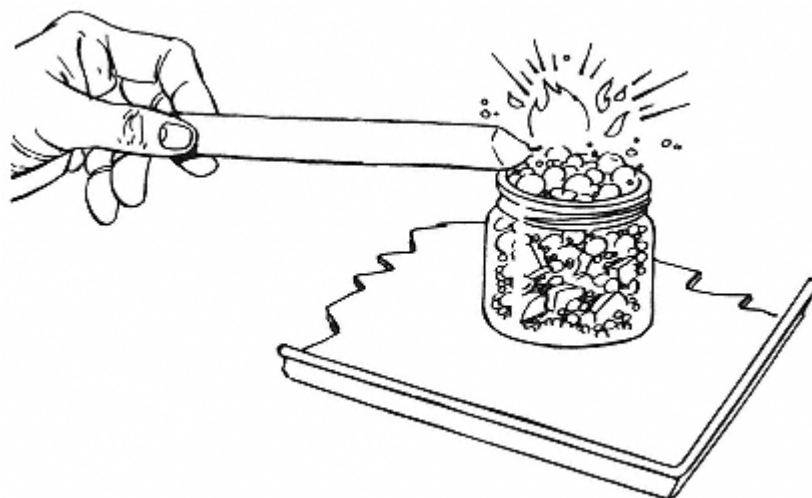

Figure 26.1
5. Allow the candle to burn for about 15 seconds, then blow out the flame and insert the glowing wick into one of the larger bubbles that has formed on the surface of the liquid in the jar. *Note:* It is important that the wick be red hot when it touches the wet bubble (see Figure 26.1).